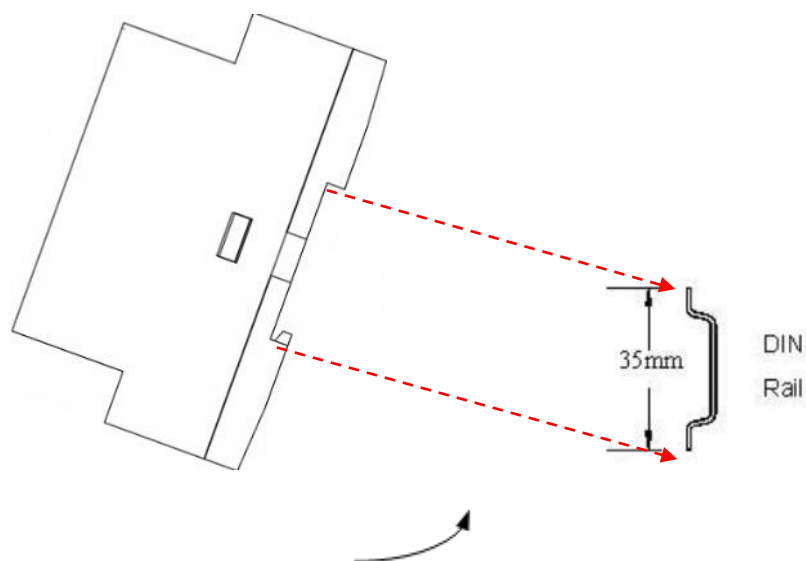

Figure 2-4 Mounting the PMC-509
- Align the top of the mounting channel at the back of the PMC-509 at an angle against the top of the DIN rail as show in Figure 2-4 below